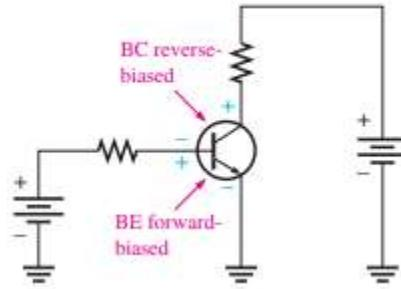

Fig. 2.1 Forward-reverse bias of a BJT
- Fig. 2.1 shows a bias arrangement of npn BJTs for operation as an amplifier. Notice that the base-emitter (BE) junction is forward-biased and the base-collector (BC) junction is reverse-biased. This condition is called forward-reverse bias